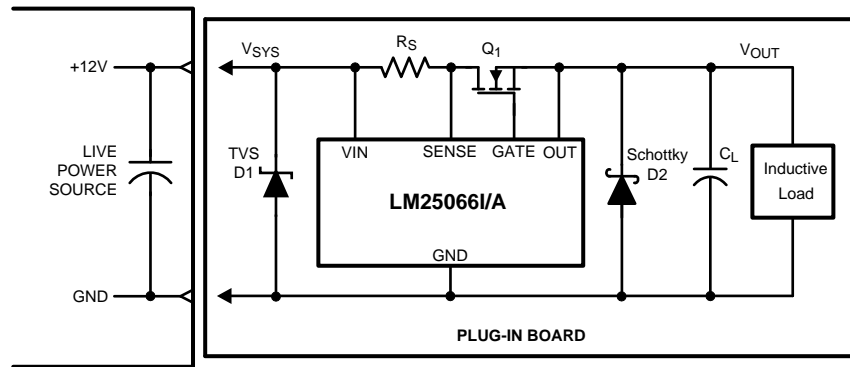

Figure 47. Output Diode Required for Inductive Loads
A) Continued proper operation of the LM25066I/A hot-swap circuit normally dictates that capacitance be present on the supply side of the connector into which the hot-swap circuit is plugged in, as depicted in Figure 47. The capacitor in the “LIVE POWER SOURCE” section is necessary to absorb the transient generated whenever the hot-swap circuit shuts off the load current. If the capacitance is not present, parasitic inductance of the supply lines will generate a voltage transient at shut-off which may exceed the absolute maximum rating of the LM25066I/A, resulting in its destruction. A TVS device with appropriate voltage and power ratings can also be connected from VIN to GND to clamp the voltage spike (see application note AN-2100).
B) If the load powered by the LM25066I/A hot-swap circuit has inductive characteristics, a Schottky diode is required across the LM25066I/A's output along with some load capacitance. The capacitance and diode are necessary to limit the negative excursion at the OUT pin when the load current is shut off. If the OUT pin transitions more than 0.3V negative, the LM25066I/A will internally reset, erasing the volatile setting for retries and warning thresholds. See Figure 47. To alleviate this, a small gate resistance (e.g. 10Ω) can be used. This resistor has the added benefit of damping any high frequency gate voltage oscillations, particularly in paralleled FET arrangements.